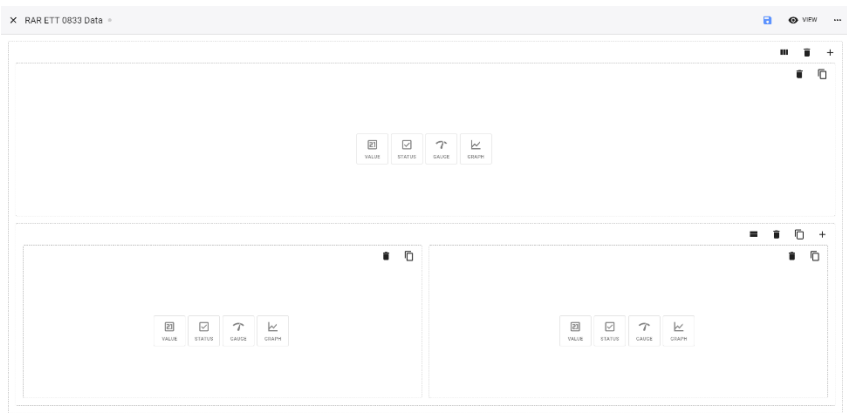

Figure 5.84 Example Dashboard layout.
5. Dashboard widgets can be selected, and tags assigned to each widget in the Dashboard designer (Figure 5.84).